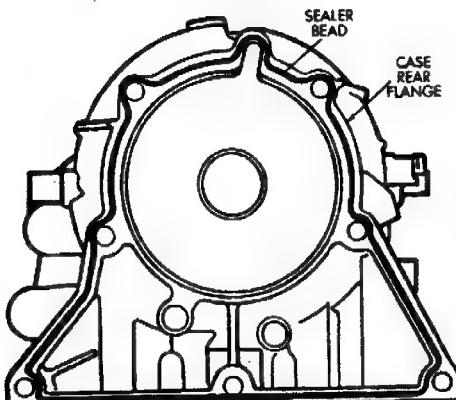

Fig. 65 Applying Sealer To Case Rear Flange
(88) Apply bead of sealer to sealing surface at rear of case (Fig. 65). Use Three Bond TB 1281, Loctite 518 or an equivalent sealer.